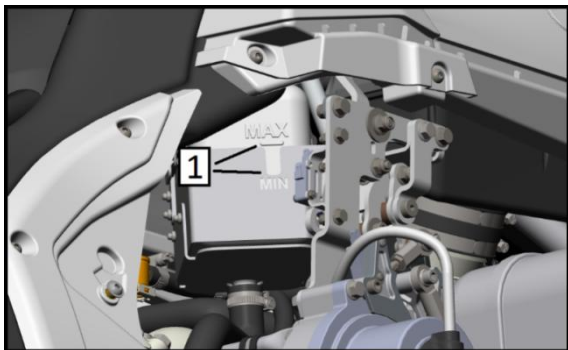

Fig. 1
2. The correct coolant level should be between the minimum and maximum marks on the expansion tank (position 1, figure 1)